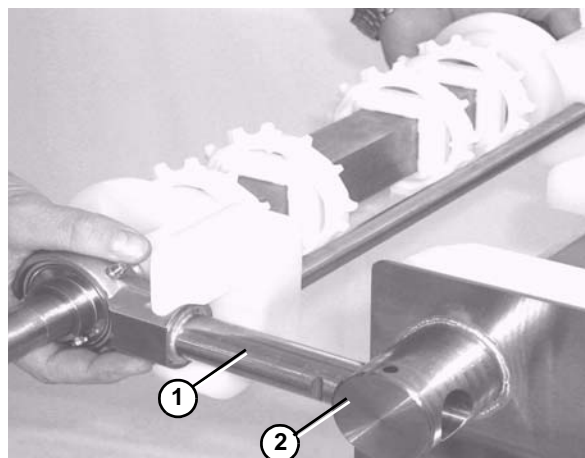

Figure 7
1. Slide the bearing shafts (**Figure 7, item 1**) into the take up blocks (**Figure 7, item 2**).